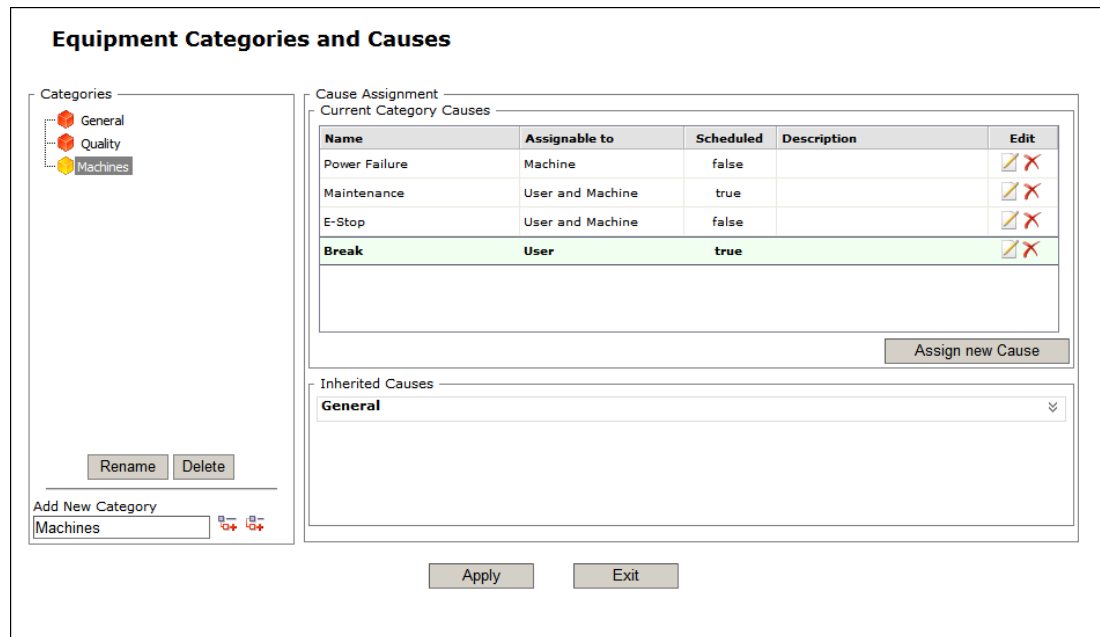

Figure L5.2 - Machines Downtime Causes
13. Your configuration may now look similar to Figure L5.2.